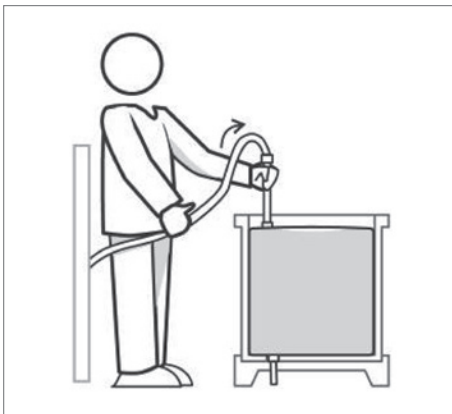

Fig. 23
7. If you have chosen to fill through the top, empty the liquid contained in the filling line into the bag by raising the tube vertically over the bag (see Fig. 23).